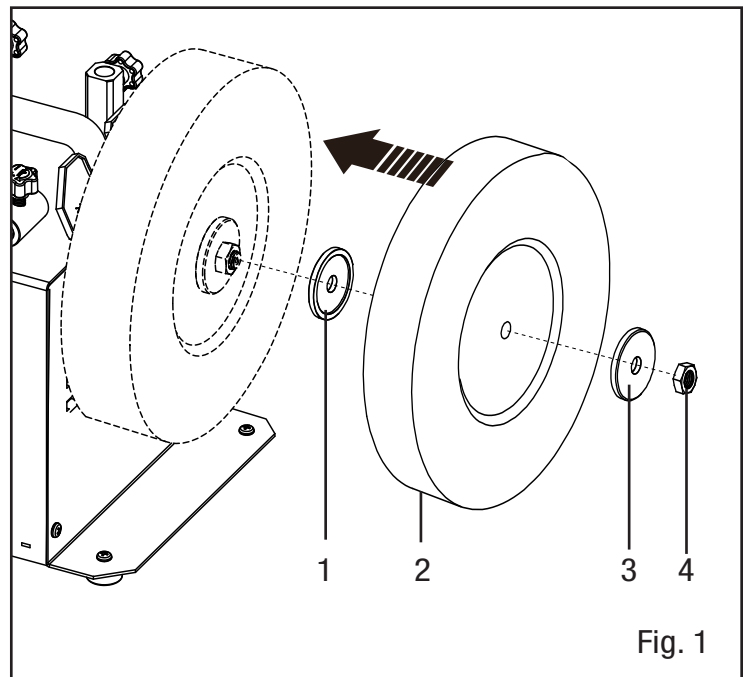

Fig. 1
1. Slide the inner washer (Fig. 1 - 1) onto the spindle, with the washer's flange facing away from the body of the machine.
2. Install the grinding wheel (Fig. 1 - 2) onto the spindle, with the depressed center facing away from the body of the machine.
3. Slide the outer washer (Fig. 1 - 3) onto the spindle, with the flange facing the grinding wheel.
4. Install the locking nut (Fig. 1 - 4). Tighten it using a 19mm wrench or socket.